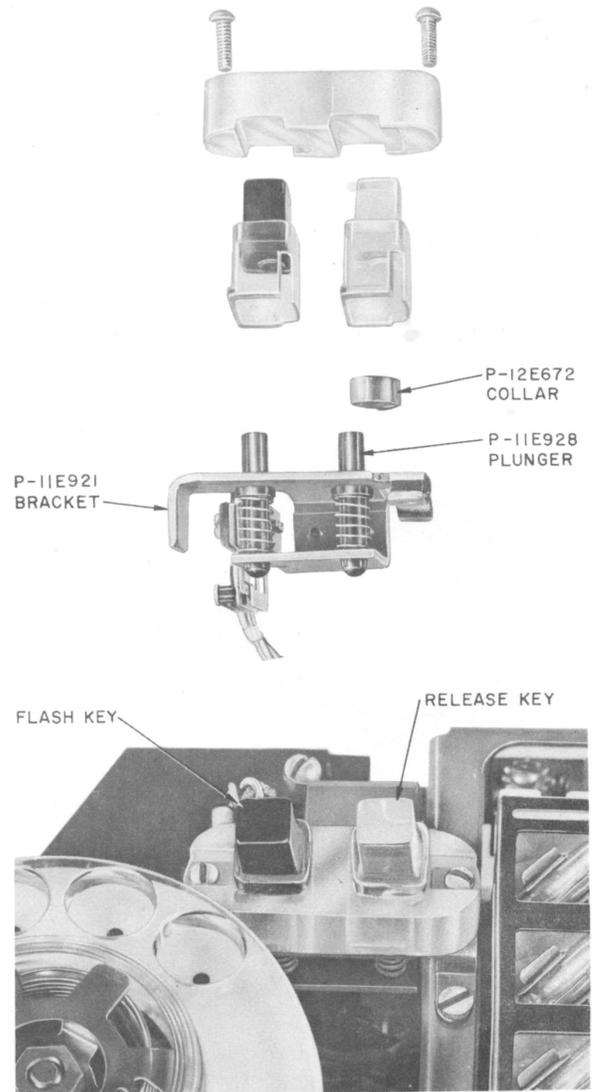

Fig. 13—P-11E987 Switch Assembly
- (1) Remove faceplate assembly.
- (2) Remove two switch assembly screws (Fig. 13).
- (3) Remove button assembly.
- (4) Place P-12E672 collar around P-11E928 plunger (Fig. 13).
- (5) Reassemble switch assembly.